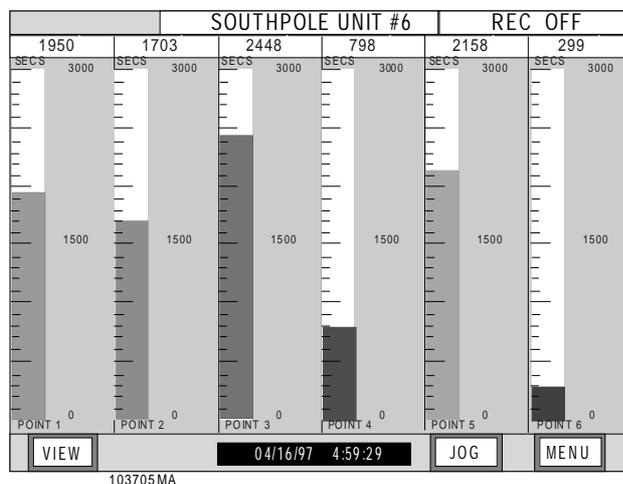

Figure 3-9 Vertical Bargraph View
2. Vertical Bargraph Display - In this view, vertical bargraphs are emulated. Bar graphs can be displayed on their own or as part of a split screen. Up to six can be displayed at a time. You can select to display bar graphs either horizontally or vertically. The assignments of points to bar graphs is made in the "PROGram - Display - Bar assign" menu (Chapter 4). The format of the vertical bar graph is shown opposite in Figure 3-9.